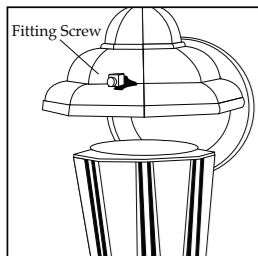

Figure 7
- For front fitting screw glass fixtures carefully loosening fitting screw, remove glass and insert bulb. Reattach glass by carefully install glass by fitting back of glass onto glass brackets. Secure glass with fitting screw (see figure 7).